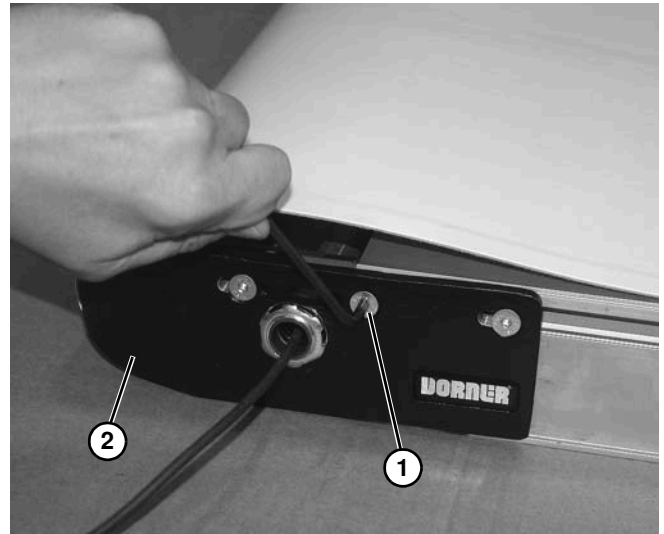

Figure 68
2. Remove middle screw (**Figure 68, item 1**) from idrive head plate (**Figure 68, item 2**) on each side of conveyor.